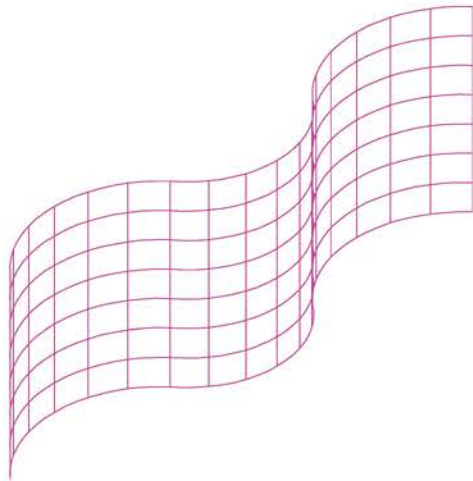

Fig. 11.32 First example – 3D Surface
As mentioned earlier, surfaces can be formed using the **Extrude** tool on lines and polylines. Two examples are given below in Figs 11.32 and 11.34.
FIRST EXAMPLE – 3D SURFACE (FIG. 11.32)
2. In the **ViewCube/Isometric** view, call the **Extrude** tool from the **Home/Modeling** panel and extrude the polyline to a height of 80. The result is shown in Fig. 11.32.